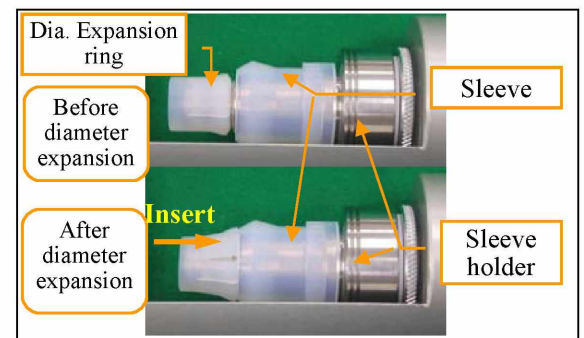

Fig. 51 - Setting the sleeve
- Install to insertion tool JT-SA-KA the sleeve holder and then the sleeve as shown in Fig. 51 for the state Before diameter expansion.
- After the sleeve has been set, push the diameter expansion ring toward the sleeve until it clicks (see Fig. 51 for the state After diameter expansion).